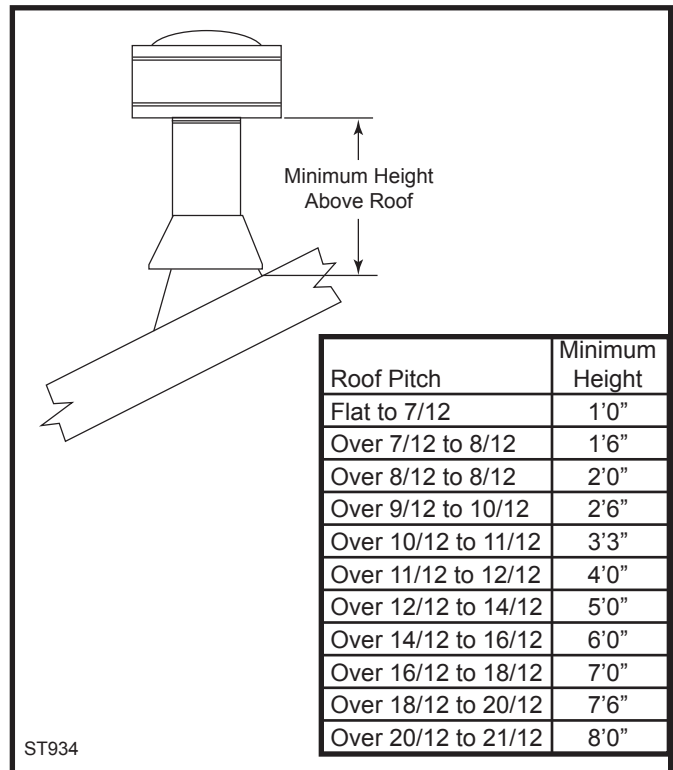

Fig. 23 Minimum height above roof requirements.
10. Add additional vent lengths for proper height. (Fig. 23)